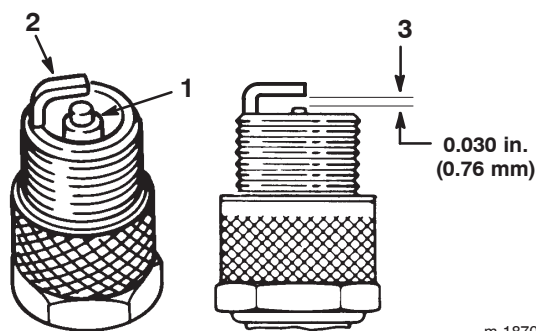

Figure 30
1. Look at the center of the spark plug (Fig. 30). If you see light brown or gray on the insulator, the engine is operating properly. A black coating on the insulator usually means that the air cleaner is dirty.
2. Check the gap between the center and side electrodes (Fig. 30) and bend the side electrode if the gap is not correct.